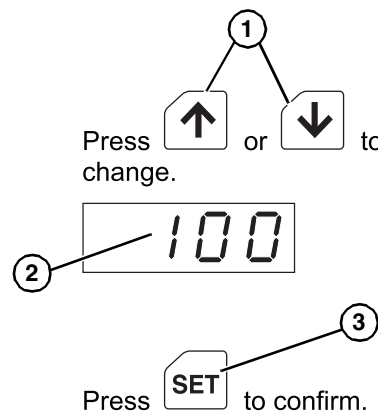

Figure 37
5. Press up or down (Figure 37, item 1) to change the conveyor gear ratio (e.g., 100 (Figure 37, item 2)). Pressing and holding the key for 3 seconds or more will increase or decrease the value successively.
6. After the gear ratio has been changed, press SET (Figure 37, item 3) to confirm the new setting.